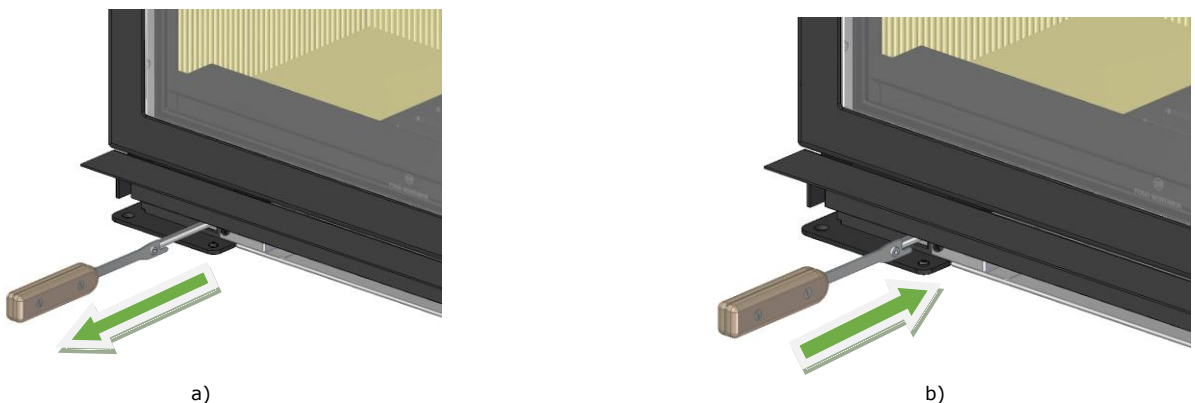

Figure 26 - a) Open Primary Air, b) Close Primary Air
- To open - Pull the regulator with the key that comes in the equipment, for greater yield and greater consumption of firewood, see Figure 26-a.
This also creates a high velocity wash effect of the preheated air over the entire inner surface of the glass panel, helping to keep the glass cleaner for longer, see Figure 26-b.
5. The ignition period ends when the equipment structure has reached a stationary temperature. You should then close the door and adjust the combustion air inlet so that it burns slowly (without primary air), as shown in Figure 26;